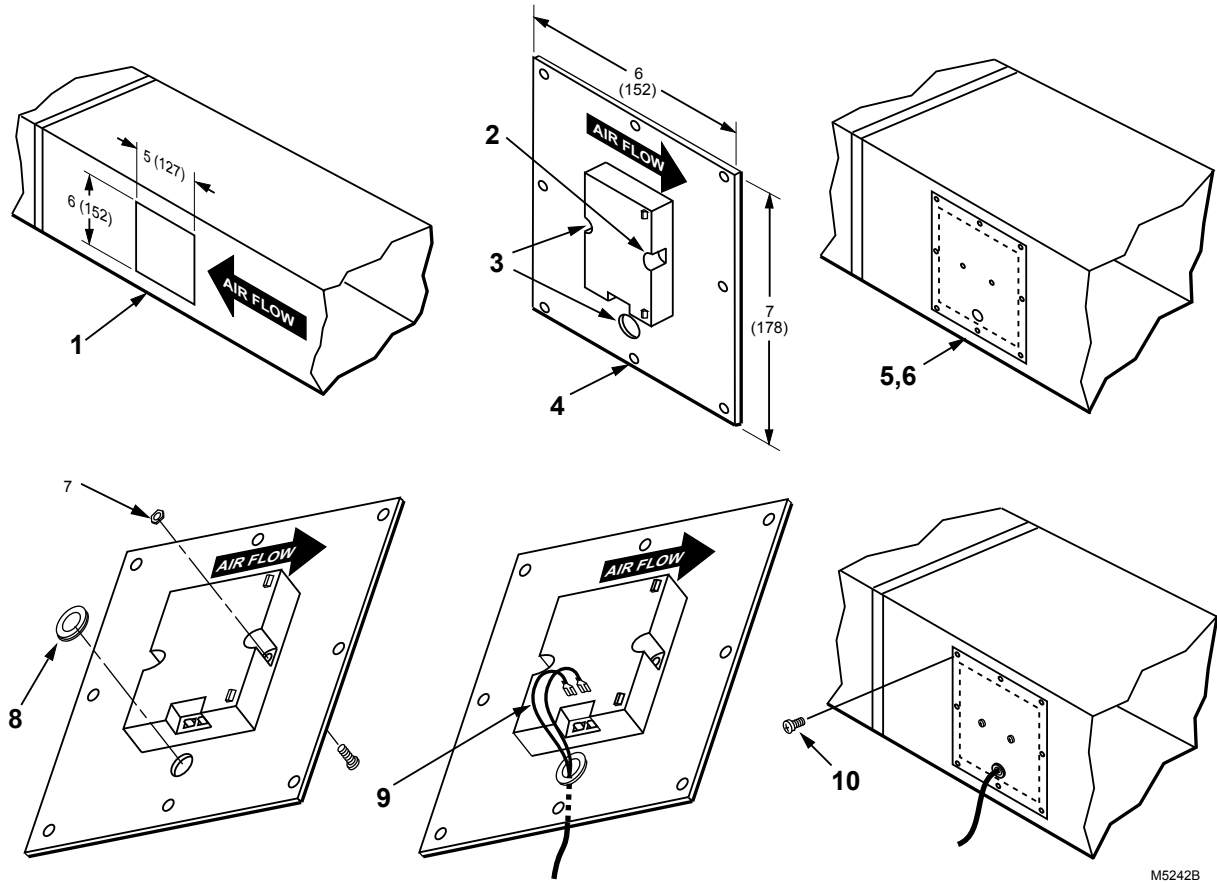

Fig. 7. Installing C7600A Solid State Humidity Sensor in return air duct.
Mounting in Return Air Duct (See Fig. 7)
10. Attach sheet metal rectangle to duct with self-tapping sheet metal screws. Make sure that airflow over the sensor is as shown in Fig. 7.